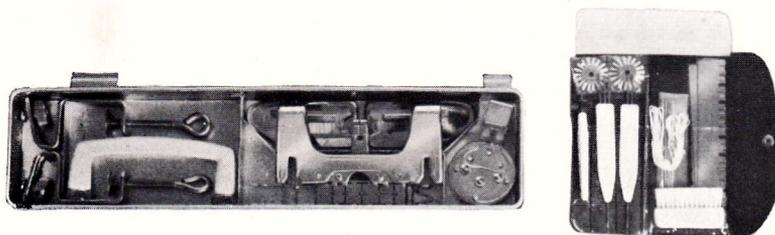

Fig. 82
- b) Take off the row counter and replace in the parts box as shown in Fig. 82.
- c) Take off the sinker plate and replace in the parts box as shown in Fig. 82.
- h) Remove the carriage handle and replace it in the parts box as shown in Fig. 82.
- i) Remove the table clamps from the knitter and replace it in the parts box as shown in Fig. 82.